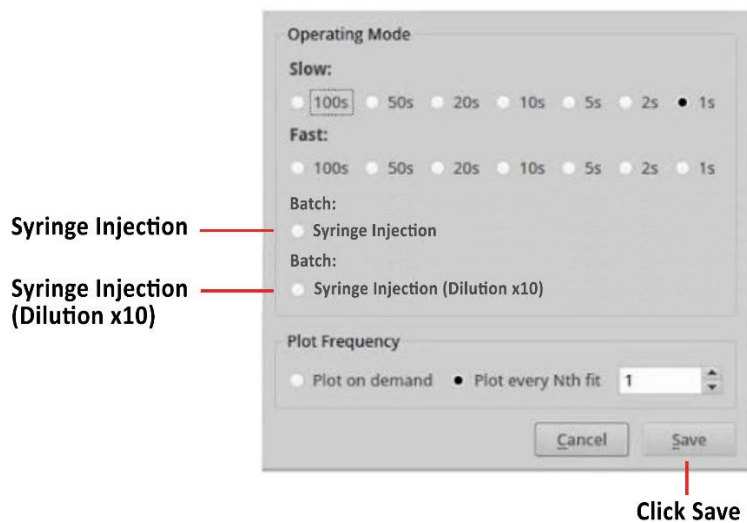

Figure 112: Rate Selection Menu
3. The *Operating Mode* pop-up menu displays. (Figure 112)